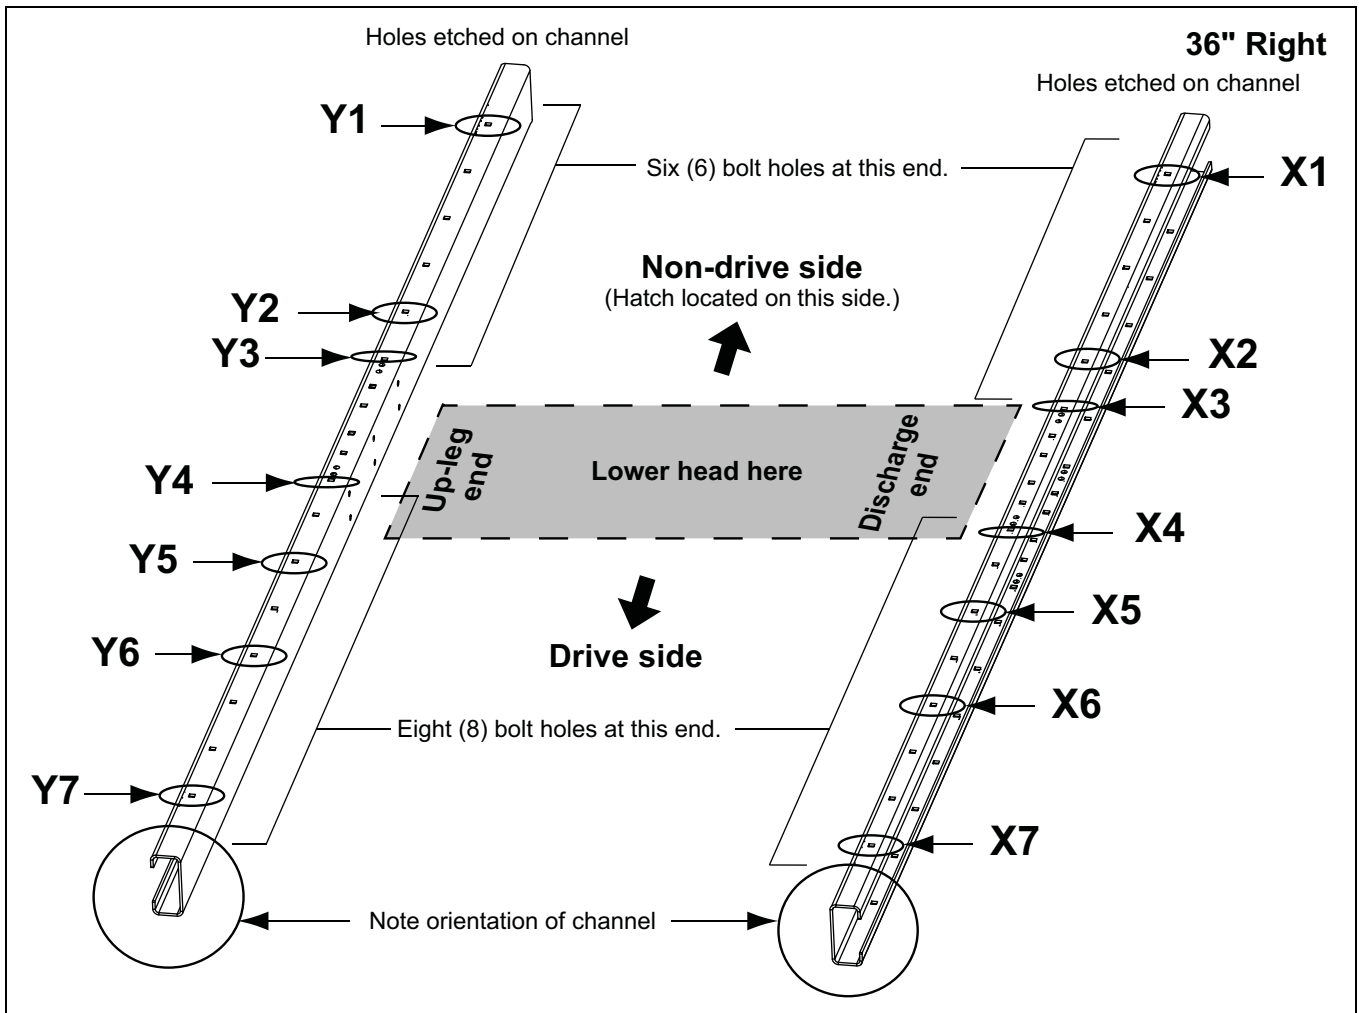
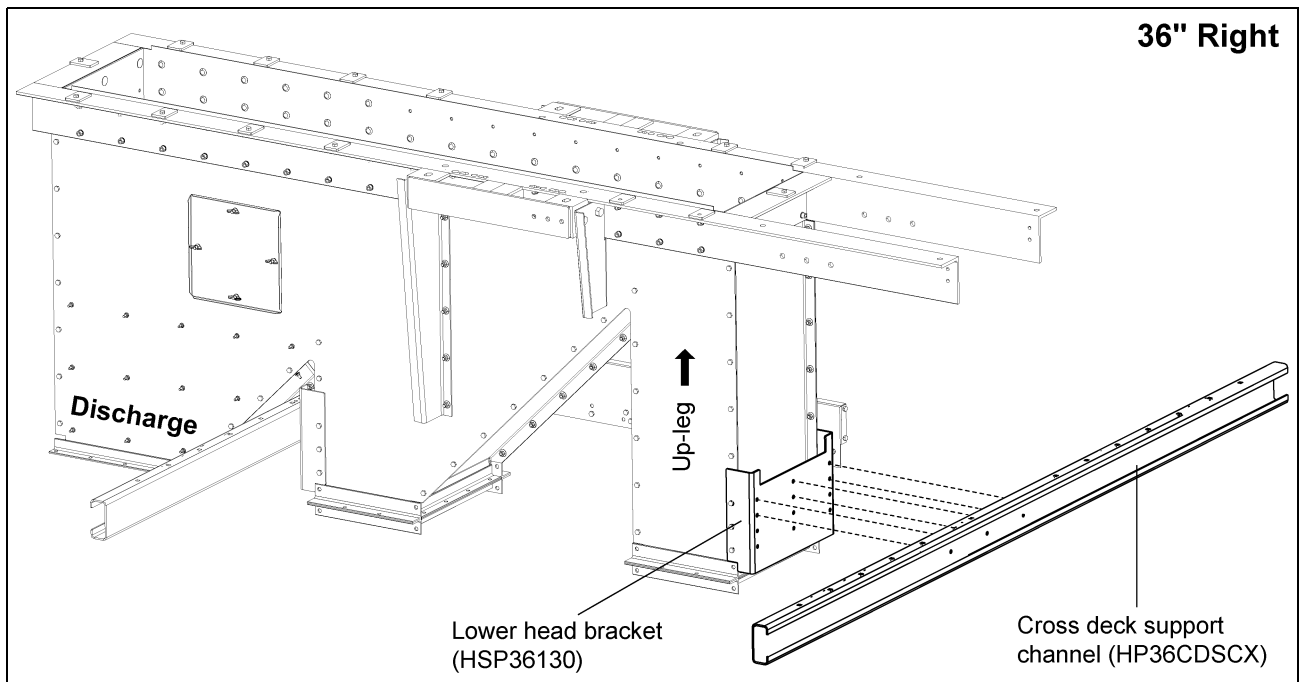

Figure 8D 36" Right Side Drive Channel Position
Figure 8E
(See Figure 8D on Page 53.)
3. Attach cross deck support channels (HP36CDSCX) to the top-most set of holes of the lower head brackets (HSP36130) using 3/8" x 1" bolts and nuts and torque properly. (See Figure 8E on Page 53.)
***NOTE:** The channels *MUST* be oriented as shown in Figure 8D and Figure 8E on Page 53 in order for the decking and subsequent assembly to be done correctly.